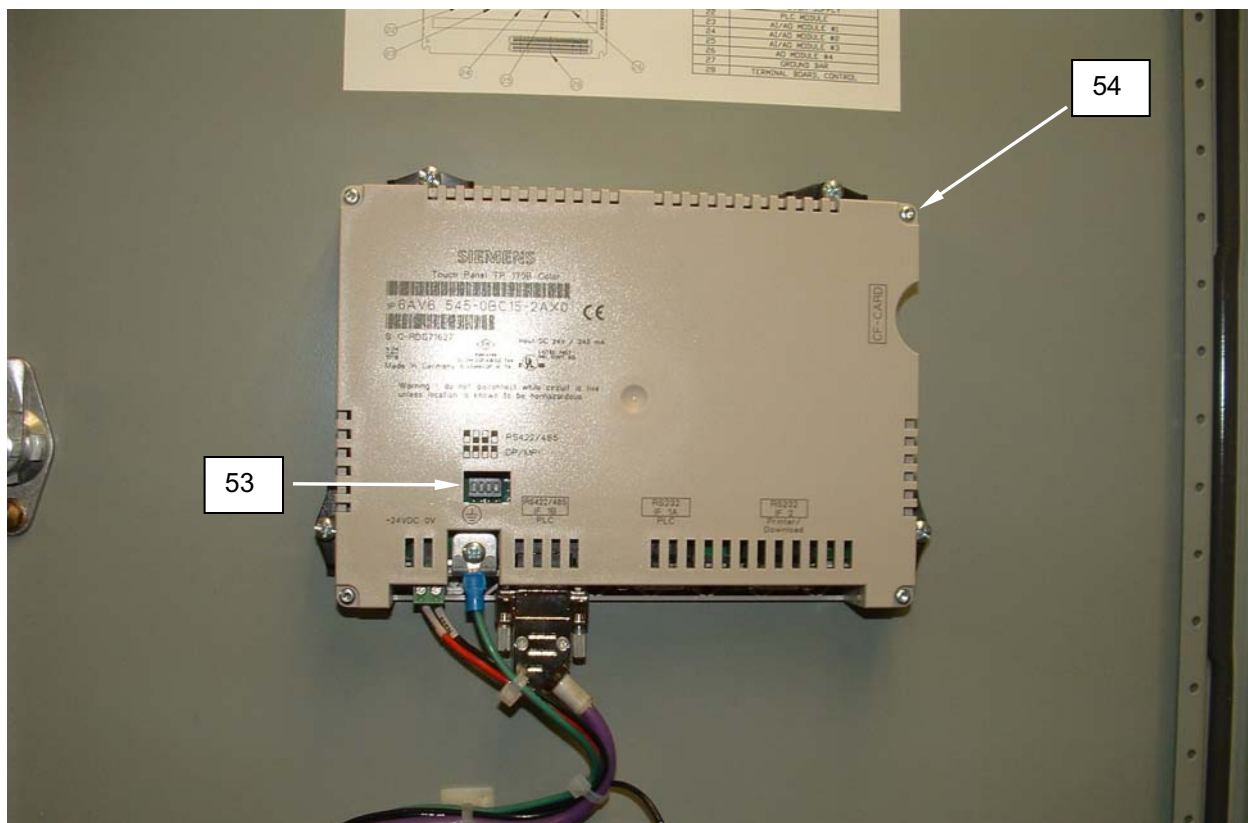

Figure 27. Test the Human Machine Interface (HMI).
2. Ensure the DIP switches (**Figure 27, Item 53**) are set on the DP/MPI setting.
3. If the HMI is unresponsive, or displays a “Cannot write to PLC” error, check all wiring connections. If wiring connections are satisfactory, replace the HMI (**Figure 27, Item 54**).